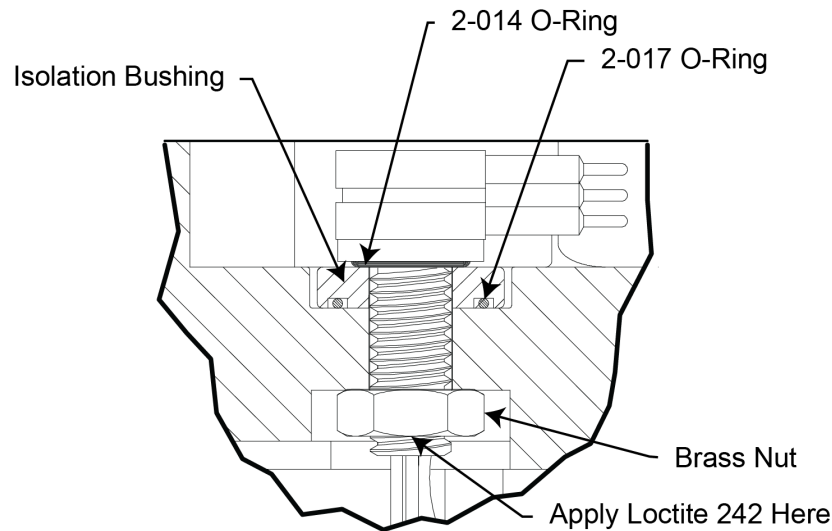

Figure 57. End-Cap Connector with Isolation Bushing
3. Systems with a metal end-cap use an isolation bushing and 2-017 O-ring between the end-cap and the 7-pin connector. Press the new bushing and O-ring onto the end-cap as shown in Figure 57.